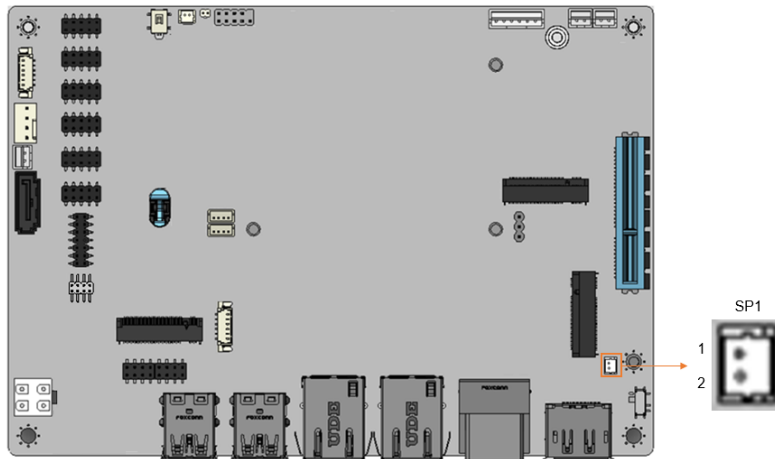

Figure 3-11: Buzzer Connector Location
- CN Location:** See **Figure 3-11**